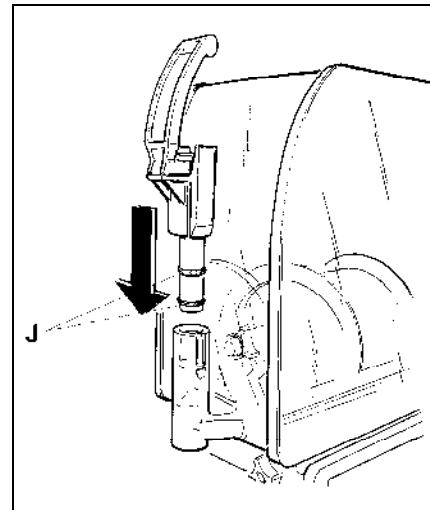

Fig. 24
- Reassemble the parts of the dispensing tap, making sure that the gaskets (J) are lubricated with Vaseline grease so that the tap slides smoothly back into its fixed position, until it's completely inserted (see figure 24).